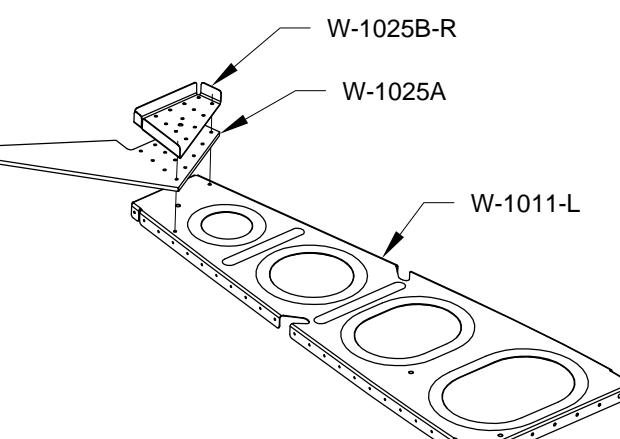

FIGURE 8: OUTBOARD FLAP HINGE ASSEMBLIES
Step 10: Cleco the W-1025B-R Flap Hinge Rib and W-1025A Flap Hinge Bracket to the two alignment holes in the W-1011-L Inboard Wing Rib as shown in Figure 8. Match-Drill #30 the inboard wing rib using the holes in the flap hinge rib and bracket as a drill guide. Final-Drill #30 the two alignment holes. Repeat this process to create two assemblies as shown in Figure 8. Ream the flap attach hole in all flap hinge brackets to 3/8.